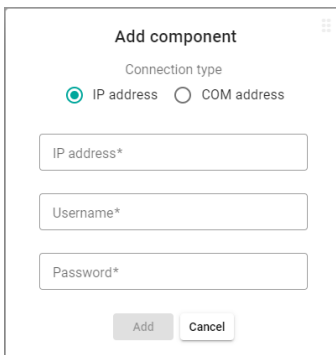

Fig. 5-7: Window *Add component*
- ▶ Window *Add component* opens (→ Fig. 5-7).